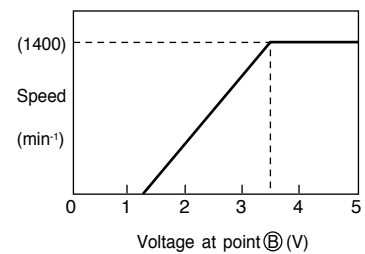

Fig. 7-3
Fig. 7-3 shows the relation between the voltage at the point (B) and the speed. (Some differences will occur due to the condition of the unit.)
- The fan motor outputs the feedback pulse of the speed, which is input into the pin (14) on the micro computer. This pulse is equivalent to a frequency of  $12/60$  speed. (Example:  $1000 \text{ min}^{-1} \times 12/60 = 200 \text{ Hz}$ )